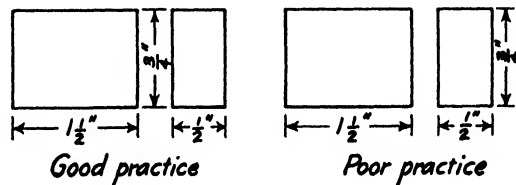

Fig. 2-8. Dimensions which apply to two views should be placed between them.
7. Dimensions which apply to two views of an object should be placed between the views, unless there is a special reason for placing them elsewhere (see Fig. 2-8).